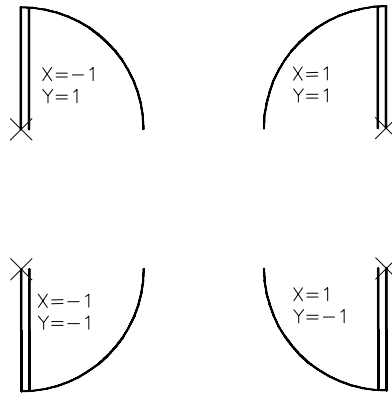

Figure 16-10 Block inserted using negative scale factors
By specifying negative scale factors, you can insert a mirror image of a block along a particular axis. A negative scale factor for both the X and Y axes is the same as rotating the block reference through 180-degree, since it mirrors the block reference in the opposite quadrant of the coordinate system. The effect of the negative scale factor on the block (DOOR) can be marked by a change in position of the insertion point marked with an (X), as shown in Figure 16-10.